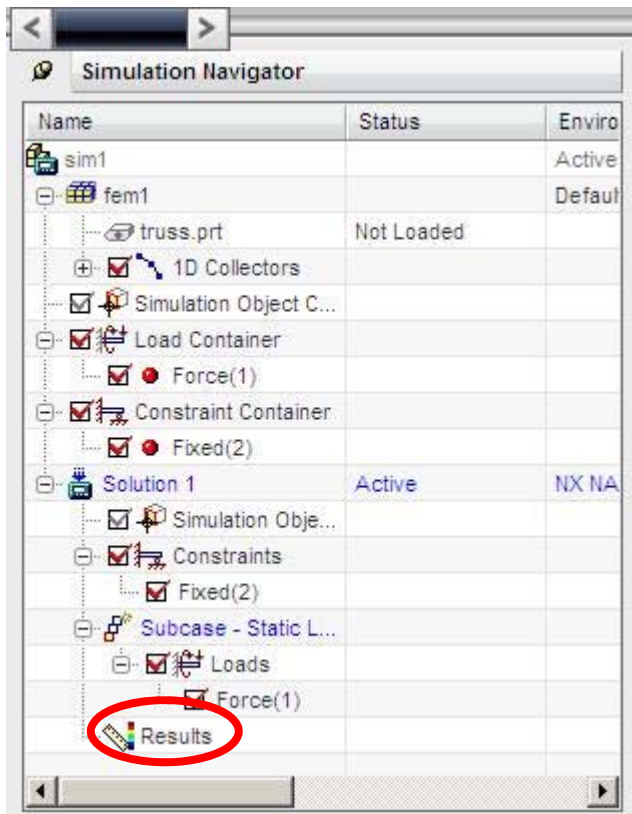

Figure 9. Solution Navigator with Results Computed.
- d) Wait for the solution to be calculated. After it is finished, the *Results* item should appear in the bottom of the Solution Navigator as shown in Figure 9. All of the windows that popped up can then be closed.